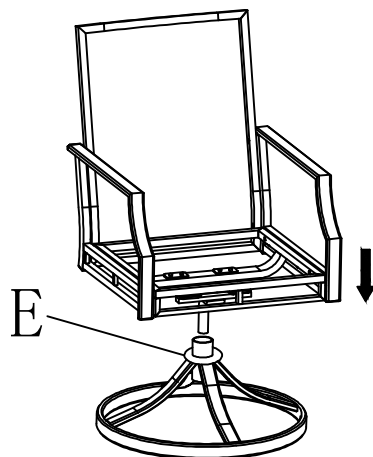

Figure 3
Step 3. Turn the chair upright, put your hands on the arms and press the T-rock into the hole of chair base (E). See Figure 3.